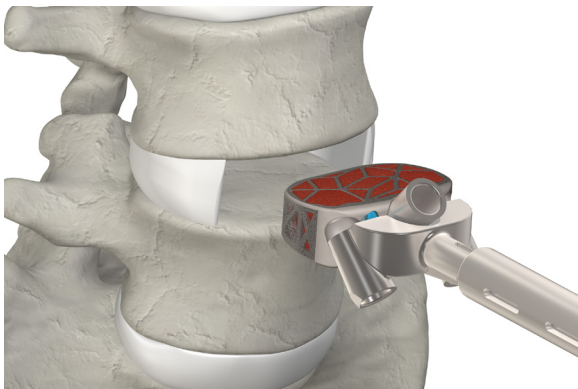

Figure 7
- ▲ Insert the implant into the disc space (Fig. 7 and 8). Use fluoroscopy to confirm proper position and placement of the implant.